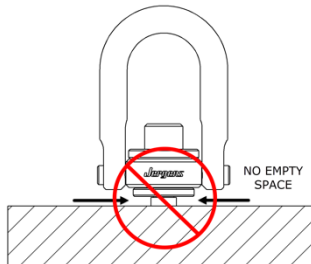

Fig 4
- Drill and tap the workpiece so that the hoist ring bolt is installed perpendicular to the surface of the workpiece. Countersink the tapped hole to prevent “swelling” of the top thread when the hoist ring bolt is torqued. The workpiece surface must be flat, providing complete contact for the hoist ring bearing surface. The tapped hole must be deep enough to ensure the hoist ring bolt is fully engaged and there is no empty space between the hoist ring bearing surface and the workpiece surface (Fig.4).